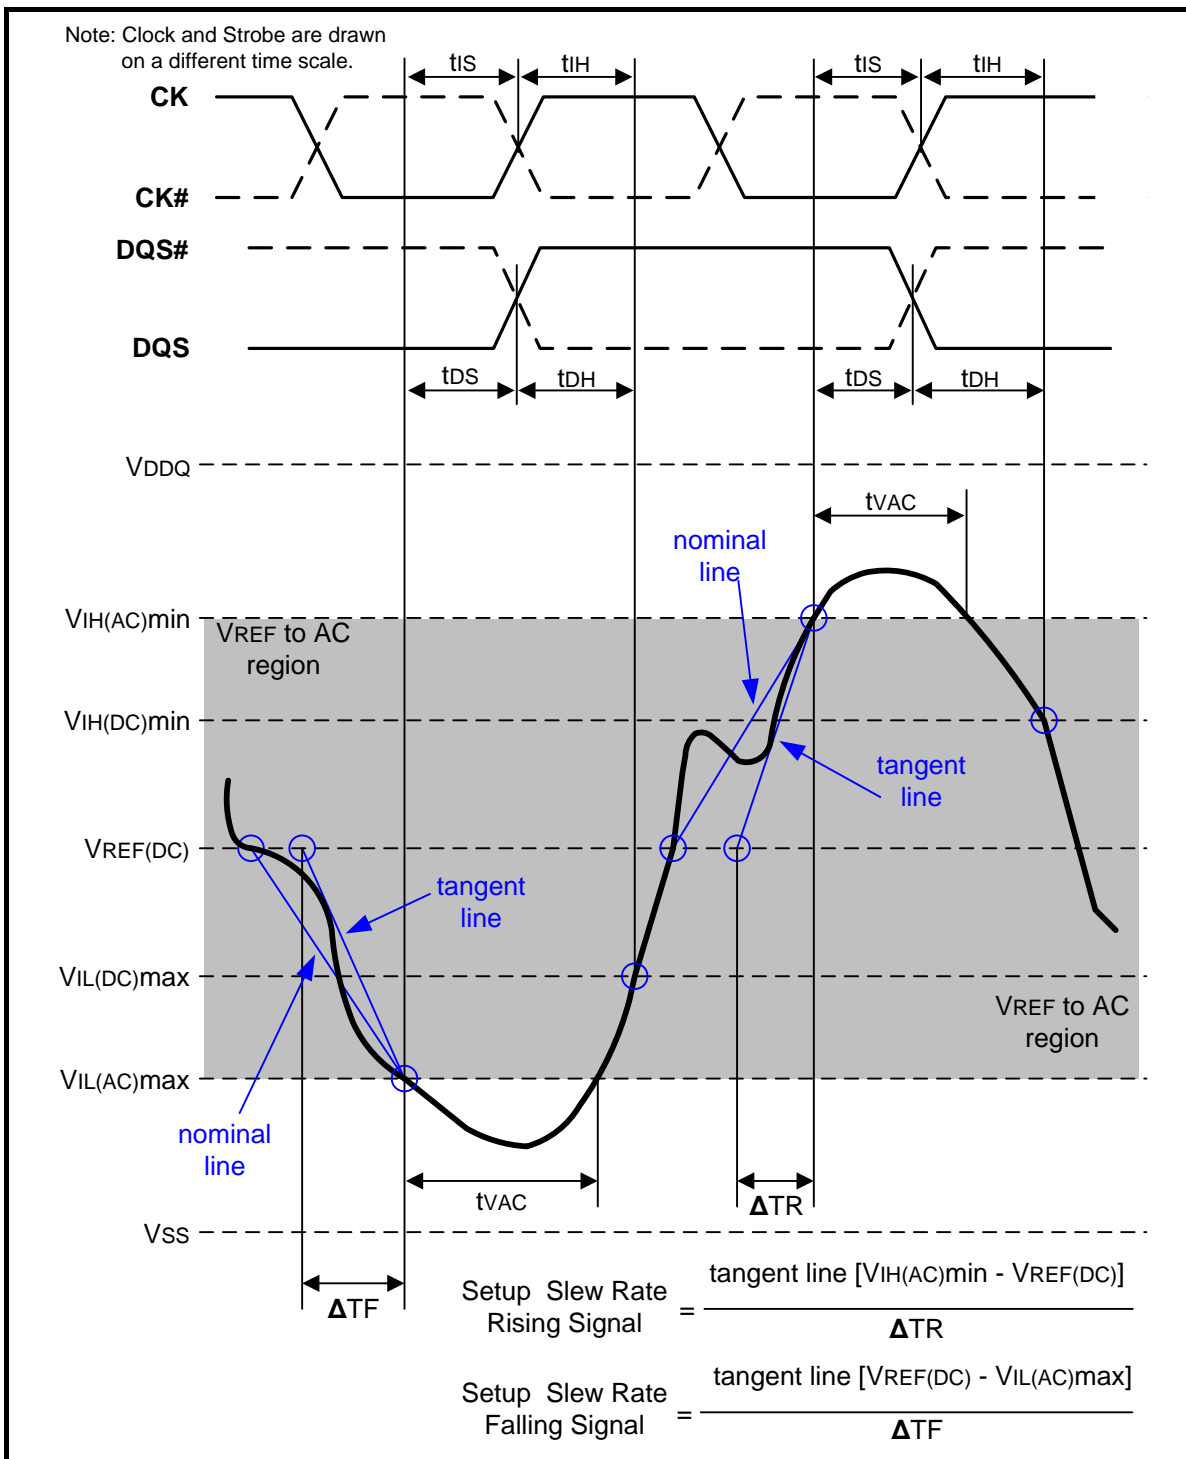

Figure 109 – Illustration of tangent line for setup time t_{DS} (for DQ with respect to strobe) and t_{IS} (for ADD/CMD with respect to clock)
Setup (t_{IS}) nominal slew rate for a rising signal is defined as the slew rate between the last crossing of $V_{REF}(\text{DC})$ and the first crossing of $V_{IH}(\text{AC})_{\text{min}}$. Setup (t_{IS}) nominal slew rate for a falling signal is defined as the slew rate between the last crossing of $V_{REF}(\text{DC})$ and the first crossing of $V_{IL}(\text{AC})_{\text{max}}$. If the actual signal is always earlier than the nominal slew rate line between shaded 'VREF(DC) to AC region', use nominal slew rate for derating value (see Figure 107). If the actual signal is later than the nominal slew rate line anywhere between shaded 'VREF(DC) to AC region', the slew rate of a tangent line to the actual signal from the AC level to $V_{REF}(\text{DC})$ level is used for derating value (see Figure 109).
Setup (tDS) nominal slew rate for a rising signal is defined as the slew rate between the last crossing of VREF(DC) and the first crossing of VIH(AC)min. Setup (tDS) nominal slew rate for a falling signal is defined as the slew rate between the last crossing of VREF(DC) and the first crossing of VIL(AC)max (see Figure 107). If the actual signal is always earlier than the nominal slew rate line between shaded 'VREF(DC) to AC region', use nominal slew rate for derating value. If the actual signal is later than the nominal slew rate line anywhere between shaded 'VREF(DC) to AC region', the slew rate of a tangent line to the actual signal from the AC level to VREF(DC) level is used for derating value (see Figure 109).